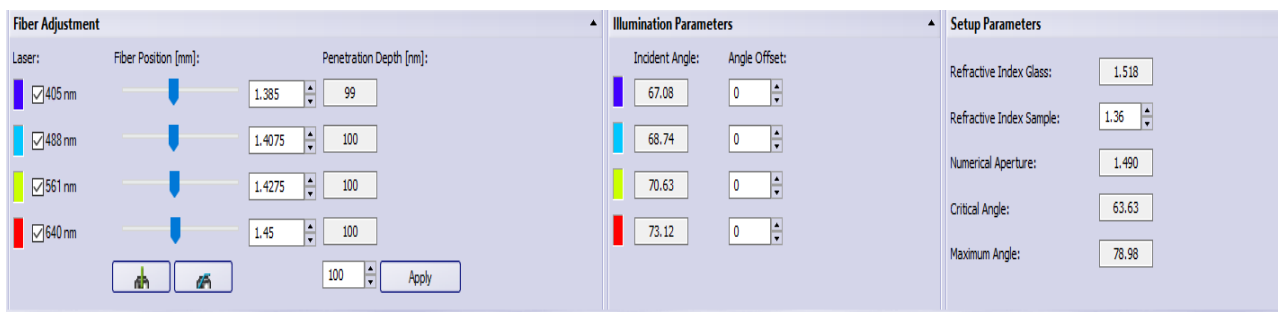

Fig. 3 TIRF Setup
14. Fig. 3 In the **Fiber Adjustment** window one can access the TIRF angles (fiber positions) of each individual laser line. Fast change between widefield and critical angle is possible with the respective buttons below the sliders.